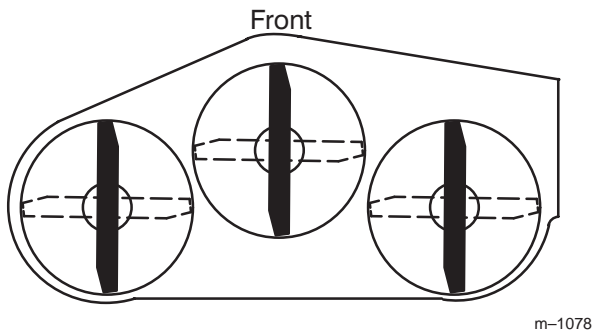

Figure 14
1. Rotate the blades until the ends face forward and backward (Fig. 14).